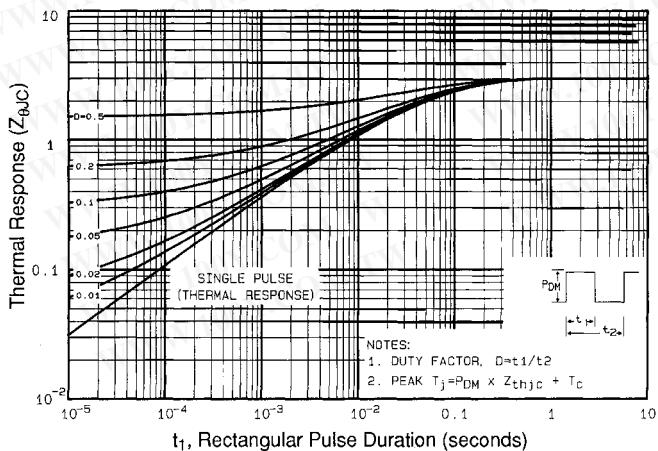

Fig 11. Maximum Effective Transient Thermal Impedance, Junction-to-Case
① Repetitive rating; pulse width limited by max. junction temperature (See Figure 11)
③  $I_{\text{SD}} \leq -6.8\text{A}$ ,  $dI/dt \leq 110\text{A}/\mu\text{s}$ ,  $V_{\text{DD}} \leq V_{(\text{BR})\text{DSS}}$ ,  $T_J \leq 150^\circ\text{C}$ ②  $V_{\text{DD}}=-25\text{V}$ , starting  $T_J=25^\circ\text{C}$ ,  $L=10\text{mH}$